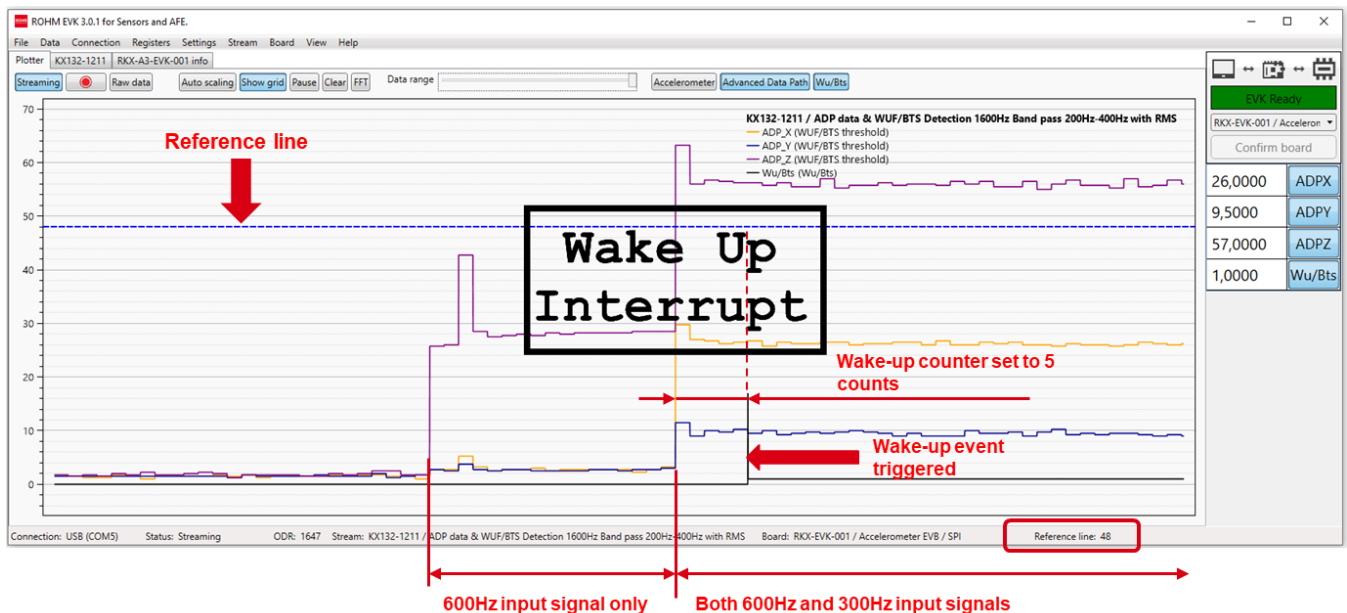

Figure 57. The plotter view with ADP & WUF data stream
to the Wake-Up/Back-to-Sleep engines. The wake-up threshold is set to 48 counts, and the Wake-up counter is set to 5 counts. When raw data (1.4.1.1 *Raw data*) is disabled the selected data stream will scale ADP output directly to the values (unit is WUF/BTS Threshold). The Reference line is also moved to the wake-up threshold level (48) for easier comparison of the threshold value and the ADP output value (1.3.8.3 *Reference line*). Also, the Wake-up pop-up window is enabled (4.4.4 *Wake up pop-up window*). The pop-up window will appear when a wake-up event is active, e.g., when a signal within band-pass frequency range is present (Figure 57).